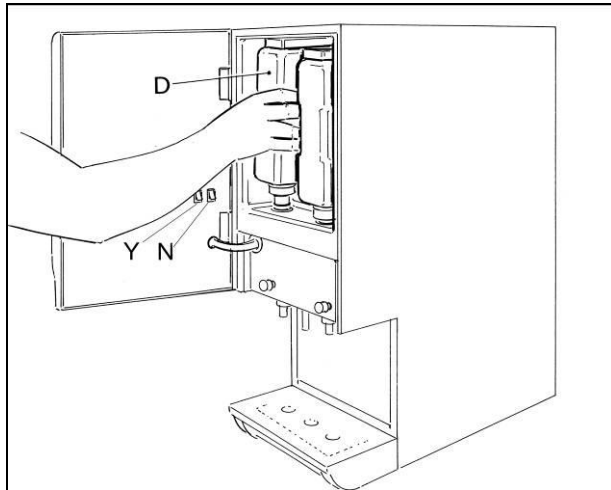

Fig. 1
**T**he machine has to be placed on a sturdy, horizontal surface making sure it is well ventilated by leaving a gap of 20 cm around it and do not install it near heat sources (fig.1); we recommend you to maintain a room temperature between 24 and 32°C.
- **O**pen the machine door using the special key supplied with the appliance in order to have access to the product BIB compartment (Fig. 1).
- **R**emove the BIB container D (fig.1).
- **F**ill a product container with sanitized water and place it in its own seat (Fig. 1).